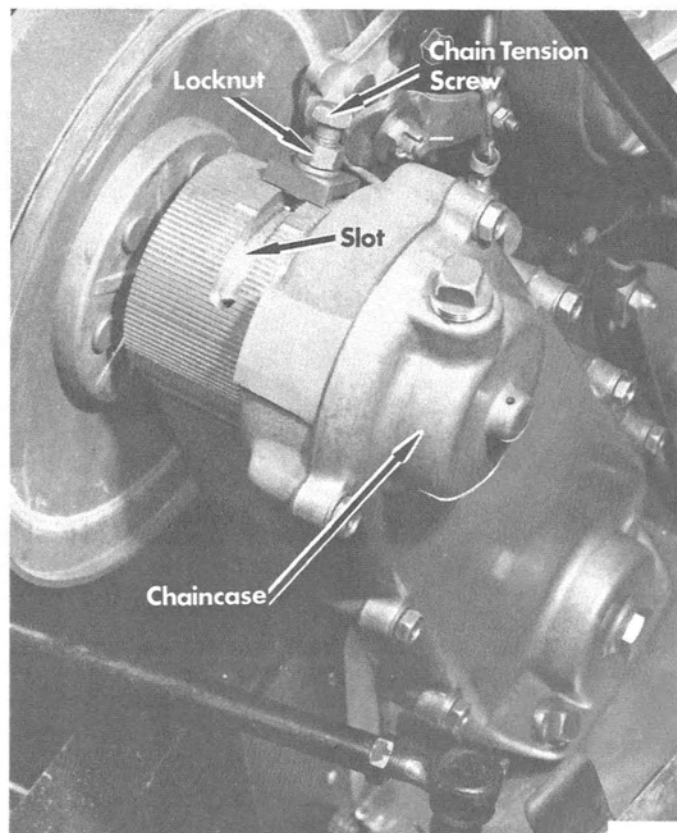

Figure 2. Tension Adjusting Screw
1. Loosen locknut on chain tension screw. (Figure 2)
NOTE: If adjusting screw has been rotated completely to rear of slot in chaincase housing (Figure 2), and recommended chain tension cannot be obtained, remove and re-insert adjusting screw at front of slot where another hole in eccentric will have appeared.